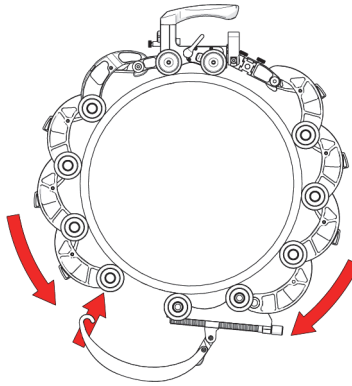
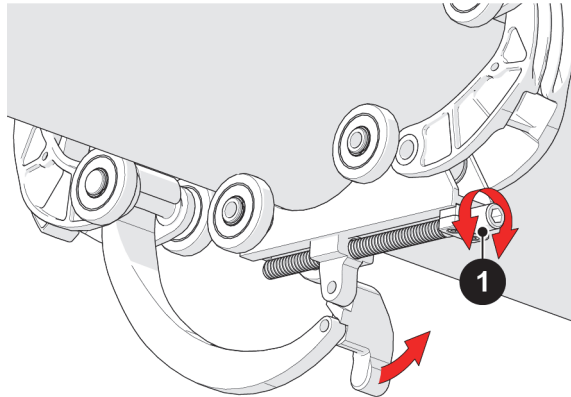
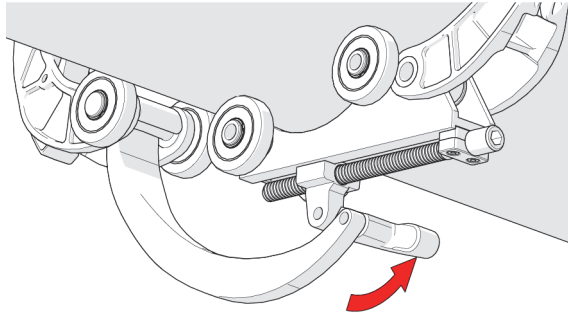

Figure 3-7 Hook QuickLink buckle to QuickLink
Figure 3-8 Adjust pressure of QuickLink buckle
Figure 3-9 Press down to lock
7. Bring the QuickLink buckle's arm towards the opposite QuickLink. Hook the QuickLink buckle's arm to the middle axle of the QuickLink (see Figure 3-7 on page 85). The QuickLink buckle adjustment knob may have to be loosened to allow the arm to reach the QuickLink (see Figure 3-8 on page 85).
8. Rotate the knob until the QuickLink buckle's lever can be pushed down, to lock the QuickLink buckle in place (see Figure 3-8 on page 85). You can adjust tightness of the ChainSCANNER on the pipe using the QuickLink buckle adjustment knob (see Figure 3-9 on page 86).
The QuickLink buckle is incorrectly setup.	Adjust the tightness of the QuickLink buckle (see Figure 3-8 on page 85).